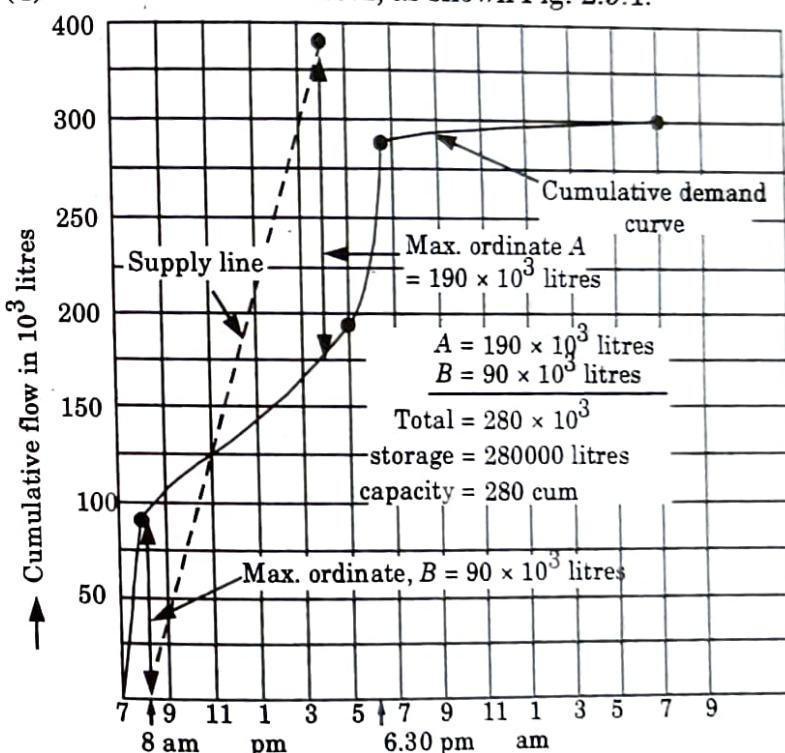

Fig. 2.9.1.
- The mass curve of demand is now plotted from the data of Col. (1) and Col. (4) of the above table 2.9.1, as shown Fig. 2.9.1.
- The supply line on the mass curve diagram will therefore, be a straight line with its slope as 37500 l/hr as shown by the dotted line in Fig. 2.9.1.